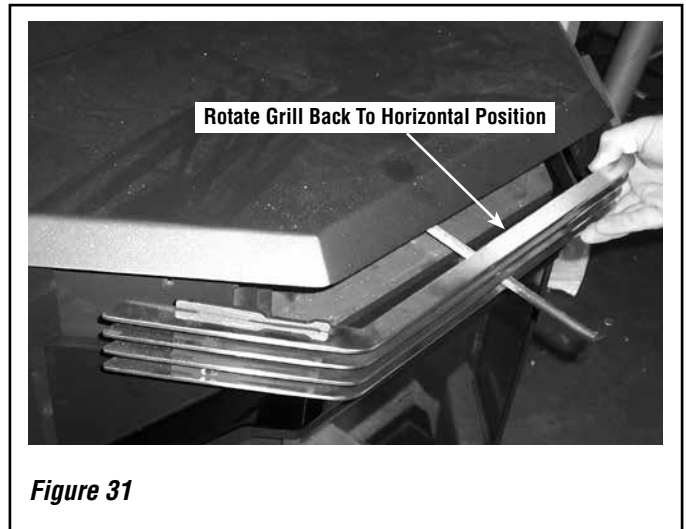

Figure 31
3. Rotate the grill back to the horizontal position and re-install the four button head screws through the two holes at each end of the grill and into the stove body. See **Figure 31**.